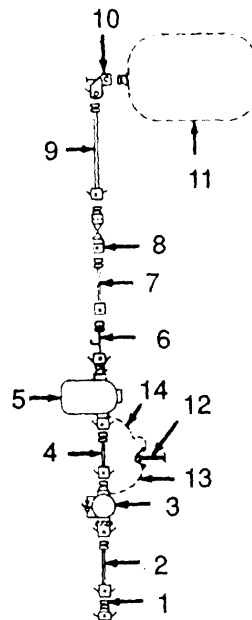

Figure 2-9. Piping Diagram for Filling Operation.
- (3) Remove closed circuit nozzles (4), install dust cap and stow in container located on discharge hose assembly frame.
- (4) Remove discharge hose assemblies (5). Install dust cap and stow hose assembly on frame.
- (5) Remove wyefitting (6), install dust caps and dust plug. Stow wyefitting in container located on discharge hose assembly frame.
- (6) Remove suction hose assemblies (7). Install dust caps and stow hose assemblies in the suction hose container.
- (7) Remove water detector adapter (8) and stow in container located on "y" discharge hose assembly frame.
- (8) Remove elbow coupler valve (9), adapter (10), butterfly valve (11), and tee fitting (12). Install dust caps and plugs. Stow all parts in container located on discharge hose container.
- (9) Disconnect ground cables (13 and 14) and stow with the pumping assembly and filter/separator.
(10) Pull ground rod (15) from the ground and stow with the filter/separator.
(11) Drain all fuel from filter/separator(16) and pumping assembly (17).
**b. Teardown of Filling Operation.** (Refer to Figure 2-9)**NOTE**